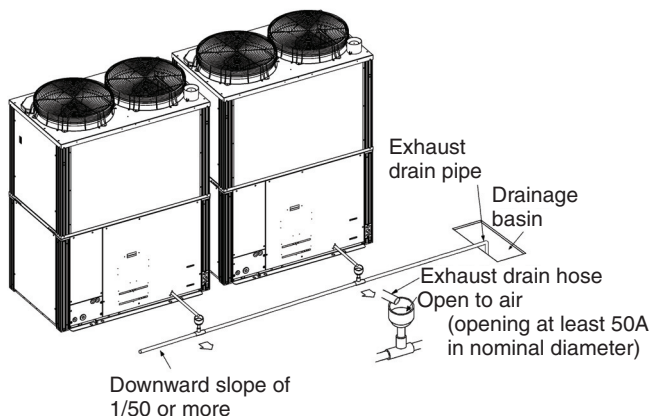

Fig. 12 Draining the exhaust into a drainage basin
- Slope the drain pipe at a gradient of 1/50 or more, and do not taper the pipe diameter (Fig. 12, 13). In addition, do not create any traps or peaks in the pipe.